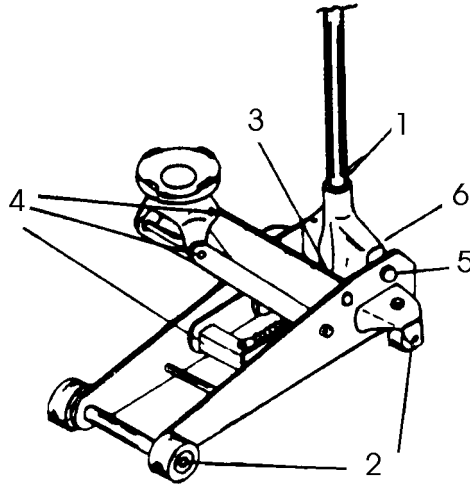

Figure 1
1. Insert Upper Handle (34) into Lower Handle (32) and fasten with Hex Cap Bolt (31).
2. Loosen Handle Bolt (25).
3. Insert handle assembly into Handle Socket (27). Make sure handle assembly engages Gear Shaft (29) by turning handle back and forth and observing movement of Release Valve Gear (23).
4. Tighten Handle Bolt (25) to secure handle assembly.
**Note:** Before initial operation, and periodically to ensure smooth operation. Lubricate the jack as points 1 through 6 are indicated in Fig. 1, Page 4.